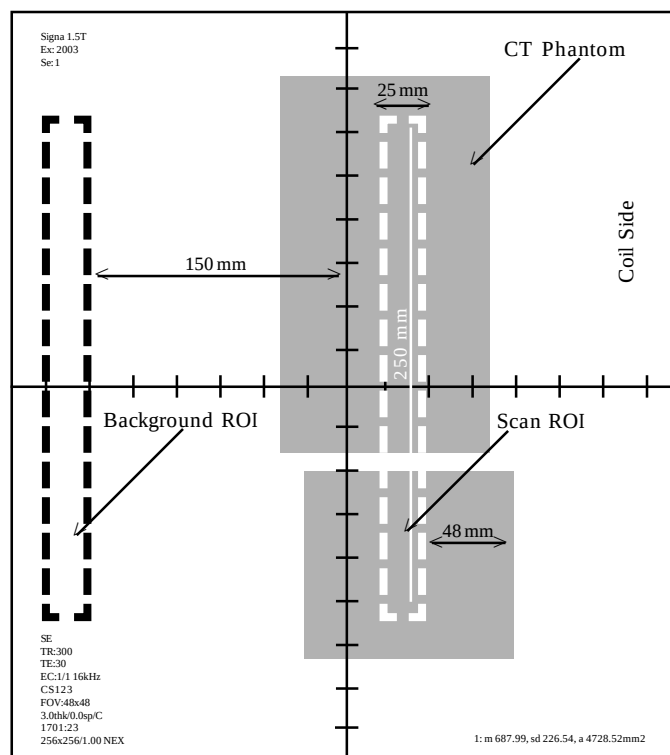

Figure 5: SNR measurement for top three coils (coil mode USCS123).
- Select [Scan]. Scan the CT phantom with the top three coils (coil mode USCS123) with landmark at the 22cm mark on the scale. Observe the resulting image of the phantom which should be similar to *Figure 5*. Check to see that there are no artifacts in the image. This image will be used for determination of the SNR of the top three coils.
- SNR Measurement of Top Three Coils -- Select the phantom image. Select the rectangular cursor or box. Size the box so that it represents a rectangular region of interest (ROI) of 25mm x 250mm (approximate). Position the edge of this rectangle at 48mm from the edge of the phantom closest to the coil, with the center of the rectangle in line with FOV isocenter (see Figure 5).
- Record the phantom ROI's mean pixel value and standard deviation. Reposition or recreate the same rectangular ROI in the background region at exactly 150mm from the center of the FOV (see Figure 5). Check to see that the background is free of any artifact.